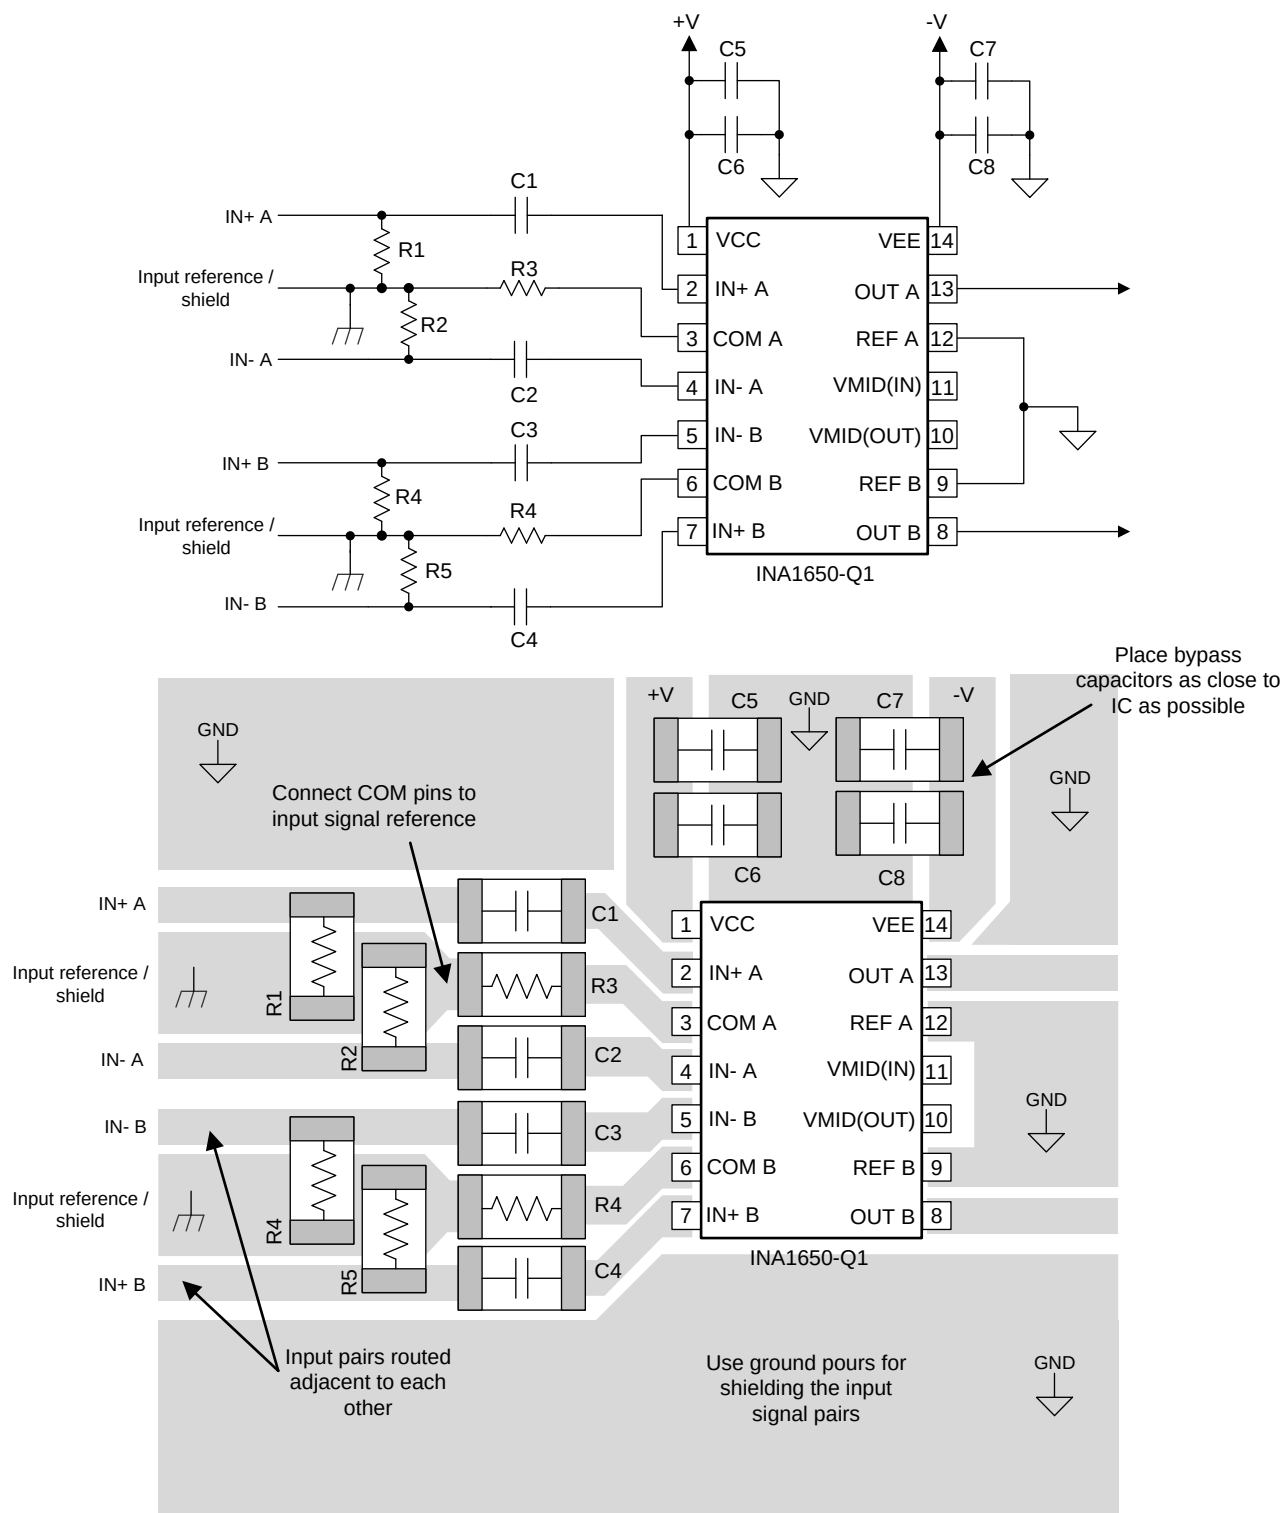
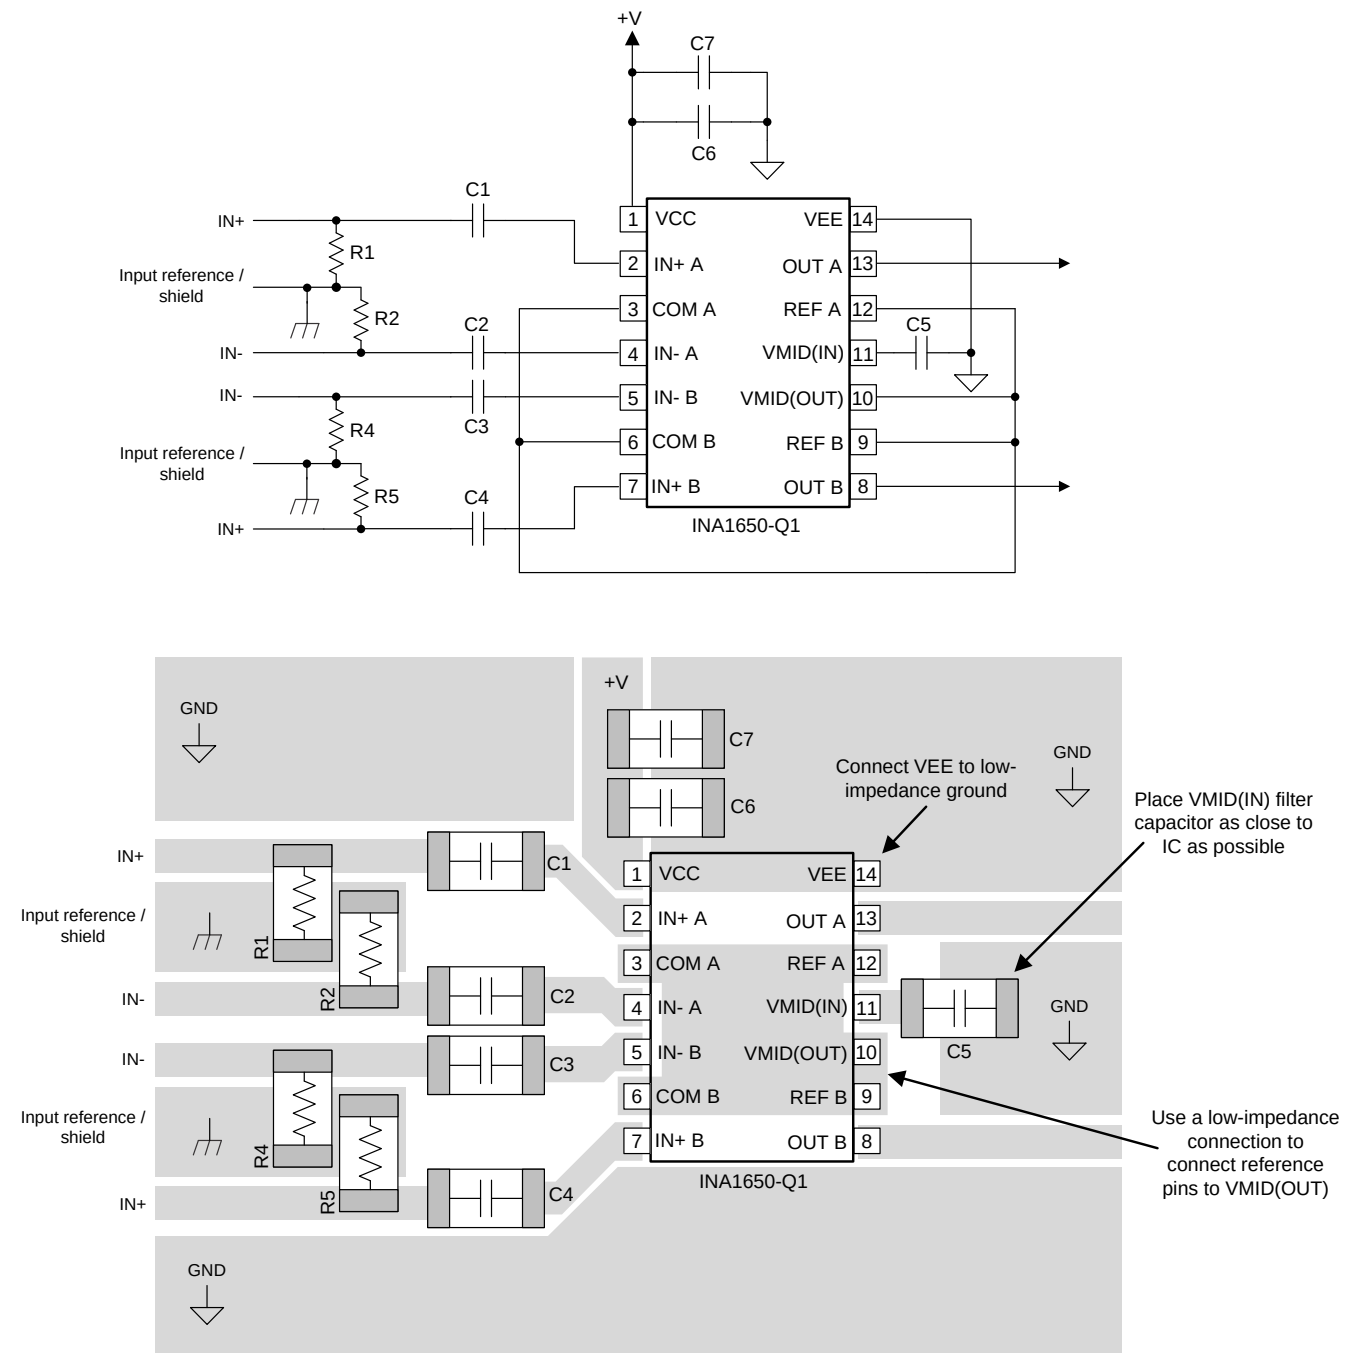

图 62. Layout Example for a Dual-Supply Line Receiver
图 63. Layout Example for a Single-Supply Line Receiver
- Place the external components as close to the device as possible, as shown in Figure 62 and Figure 63.